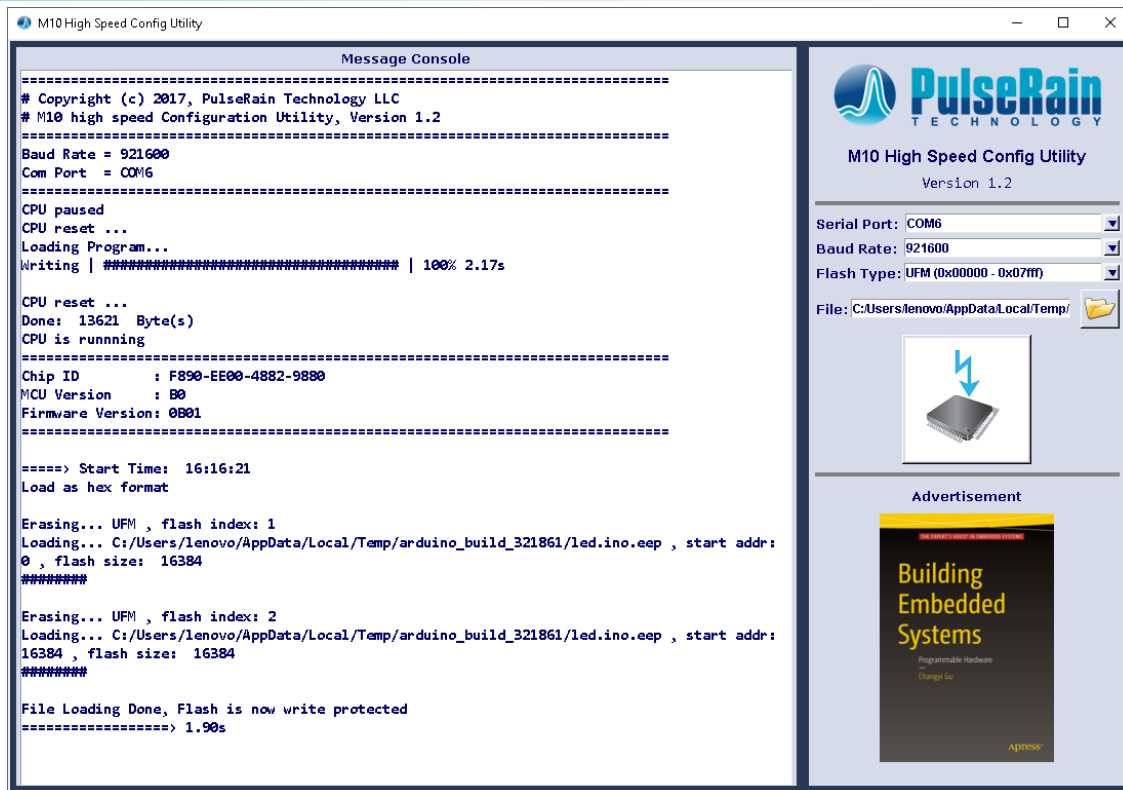

Figure 2-6 M10 High Speed Configuration Utility
6. Click the big square button on the right-hand side (with the picture of lightning strike). If everything is done right, you will see a message like **"File Loading Done, Flash is now write protected."** at the end of flash programming, as illustrated in Figure 2-6.